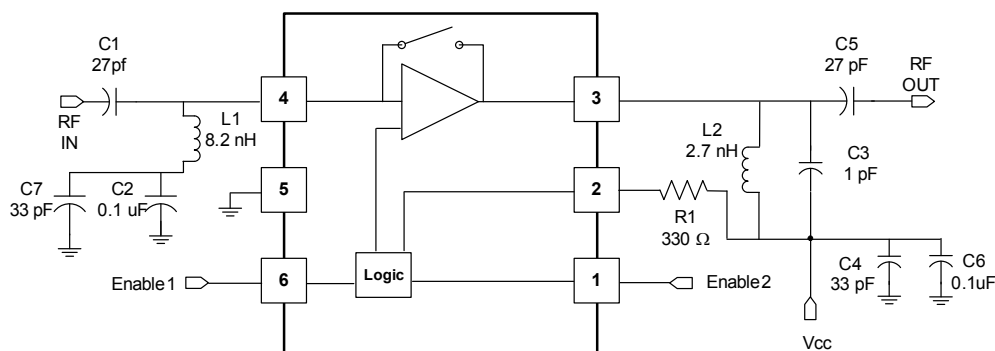

Figure 6. Typical 1.9 and 2.4 GHz LNA Application Schematic
Figure 6 shows the typical application circuit at 1.9 and 2.4 GHz. The noise figure, input intercept point, gain, and return losses are optimized. L1 and C2 act as a low frequency trap to improve the input intercept point.
1900 MHz Figure 6 Application Circuit
1.9 GHz (See Figure 6)
2.4 GHz (See Figure 6)